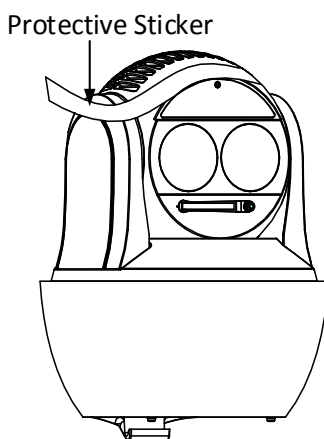

Figure 1-24 Remove Protective Sticker
1. Remove the protective sticker as shown in Figure 1-24.